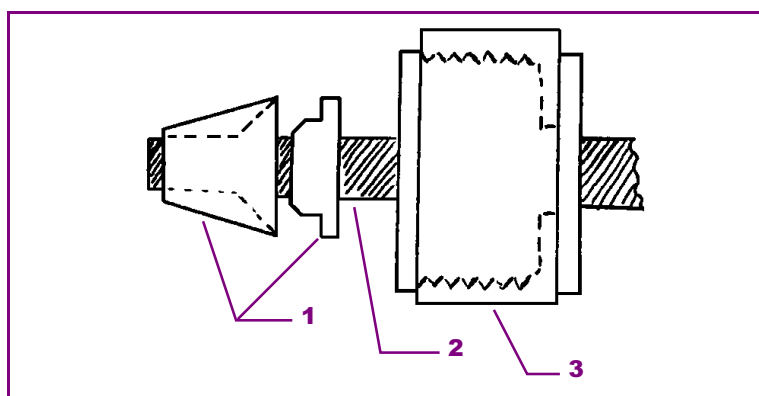

Figure 3
7. Refit the ferrules (Figure 3).